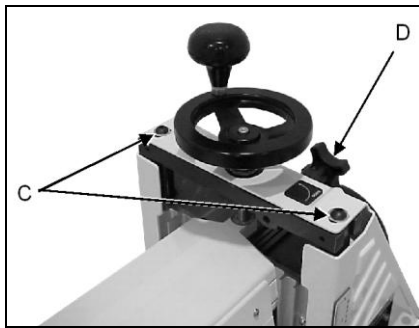

Fig 15
To align the drum, loosen the two hex socket screws (C, Fig15).
Turn the board and without changing the drum height, sand the other end of the board. If a ridge is visible due to drum overlap, loosen the tow hex socket screws (C, Fig 15) and raise the outboard end of the drum by turning the fine adjustment knob (D) slightly clockwise and tighten the two hex socket screws.